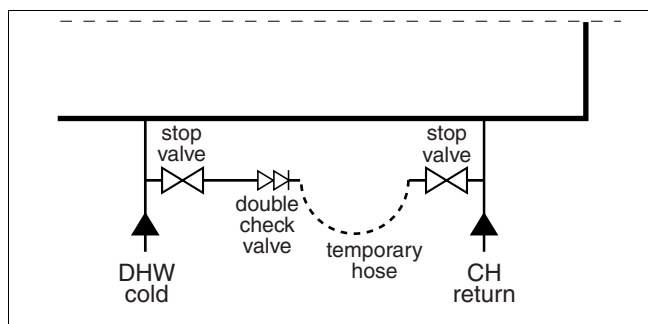

fig. 31 Connecting temporary hose
- Connect temporary hose (fig. 31).